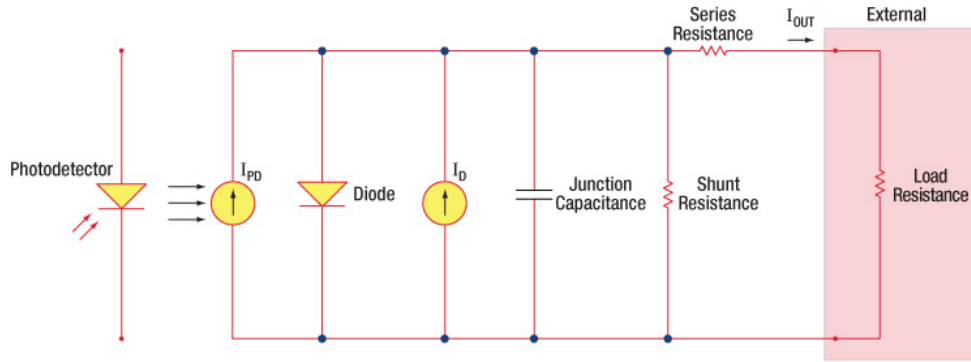

Figure 1: Photodiode Model
It is necessary to be able to correctly determine the level of the output current to expect and the responsivity based upon the incident light. Depicted in Figure 1 is a junction photodiode model with basic discrete components to help visualize the main characteristics and gain a better understanding of the operation of Thorlabs' photodiodes.
Pulsed laser radiation parameters are illustrated in Figure 1 and described in the table. For quick reference, a list of equations are provided below. The document available for download provides this information, as well as an introduction to pulsed laser emission, an overview of relationships among the different parameters, and guidance for applying the calculations.
Figure 1: Parameters used to describe pulsed laser emission are indicated in the plot (above) and described in the table (below). **Pulse energy (E)** is the shaded area under the pulse curve. Pulse energy is, equivalently, the area of the diagonally hashed region.